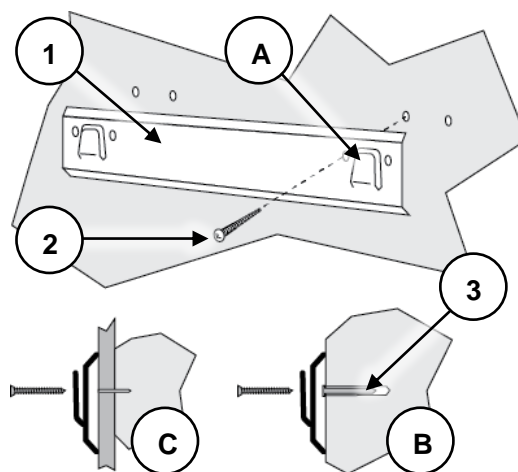

Figure 2
4. Refer to *Figure 2*. Drill the range hood mounting bracket (1) holes, then secure the bracket to the wall using 4 mounting screws (2), making sure that the tabs (A) protruding from the bracket are opposite the wall and facing upward – the range hood hooks on to these tabs. Ensure that the bracket is level before tightening the screws – be careful not to over-tighten the screws and strip them or cause the wall plugs to spin.
- If the wall is brick, cement or masonry (B), use the wall plugs (3) – drill 5/16" (approximately 8mm) to a depth of 50mm (2"), then tap the wall plugs into the holes.
- If the screws are to be installed directly to a non-masonry wall or suitable material behind the wall (C), drill a 3mm (1/8") "pilot" hole to a depth of 20mm (3/4") to enable the screw to "dig in" easily.